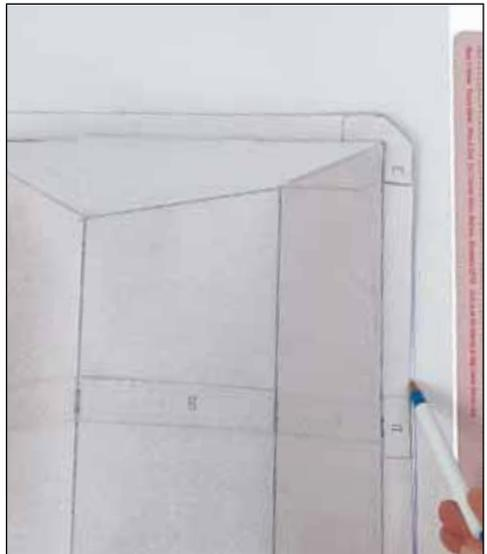

Figure 13
7. Lay the transparency down on a flat surface and place the reflector box facedown over it. Draw a line on the transparency around the box (Figure 13). Cut the transparency on the marks.